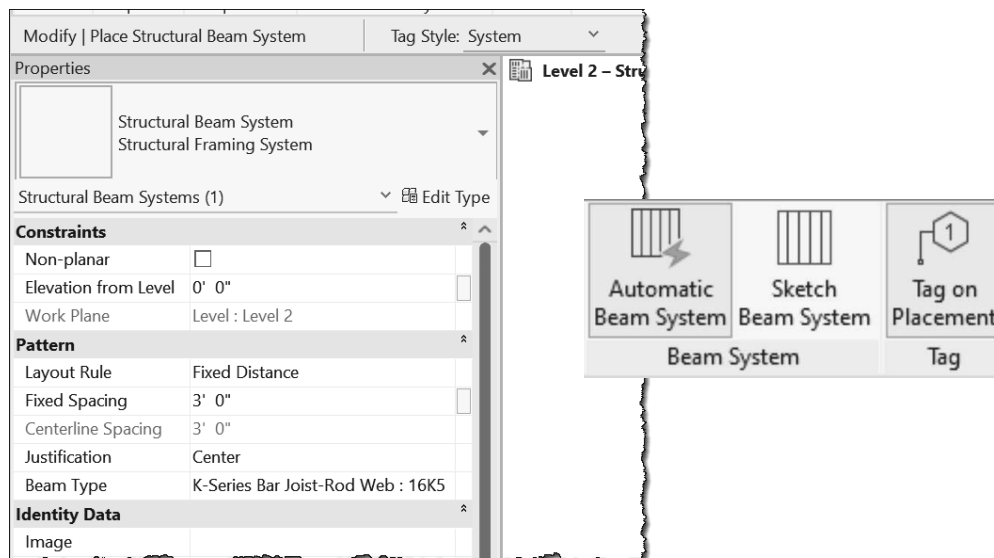

FIGURE 8-4.7 Beam system tool active; related settings
31. Adjust the *Ribbon*, *Properties*, and *Options Bar* to match Figure 8-4.7.